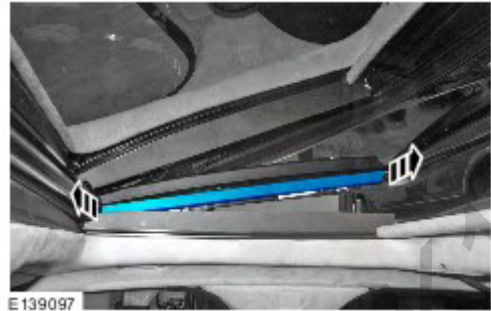

Figure 24
31. If required, adjust the rear fixings to achieve the above specification. (Figure 24)